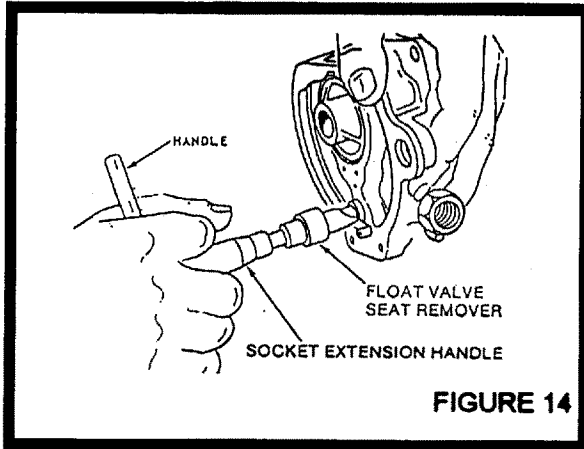

FIGURE 14
- 63) Install washer (62) over economizer channel plug (61), tighten in place and safety to casting through hole provided with wire (59). Torque to 5-10 inch pounds. Crimp lead seal (60) over wire ends.
- 64) Install float bracket (25) with screws (24). Torque in place 8-11 inch pounds.
- 65) Place horseshoe washer (33) in its slot on mixture control valve (34), and insert into its channel through washer (35).
- 66) Install mixture control valve packing (32), thrust washer (31) and spring (30).
- 67) Turn mixture control valve until the locating hole is aligned with the mixture control lever (28) clamping slot. Insert mixture control lockwire (29) through lever slot and into hole in valve. Ensure that the loop of the wire is toward the valve. Install the clamp screw (26) through safety washer (27), mixture control lever (28) and mixture control lockwire (29).
- 68) Install fuel strainer (48) through safety washer (49) into casting, tighten to 10-12 foot pounds and bend tabs to safety.
- 69) Install fuel inlet fitting (46) and gasket (47), and tighten to 10-12 foot pounds.
- 70) Install float valve seat (22) and gasket (23), tighten with tool M-103 or a large screw driver to 10-12 foot pounds. See Figure 14.
- 71) Place casting flange down on bench and install pump plunger (10). The tangs on the pump stem slide through the elongated holes in pump idler lever (11).